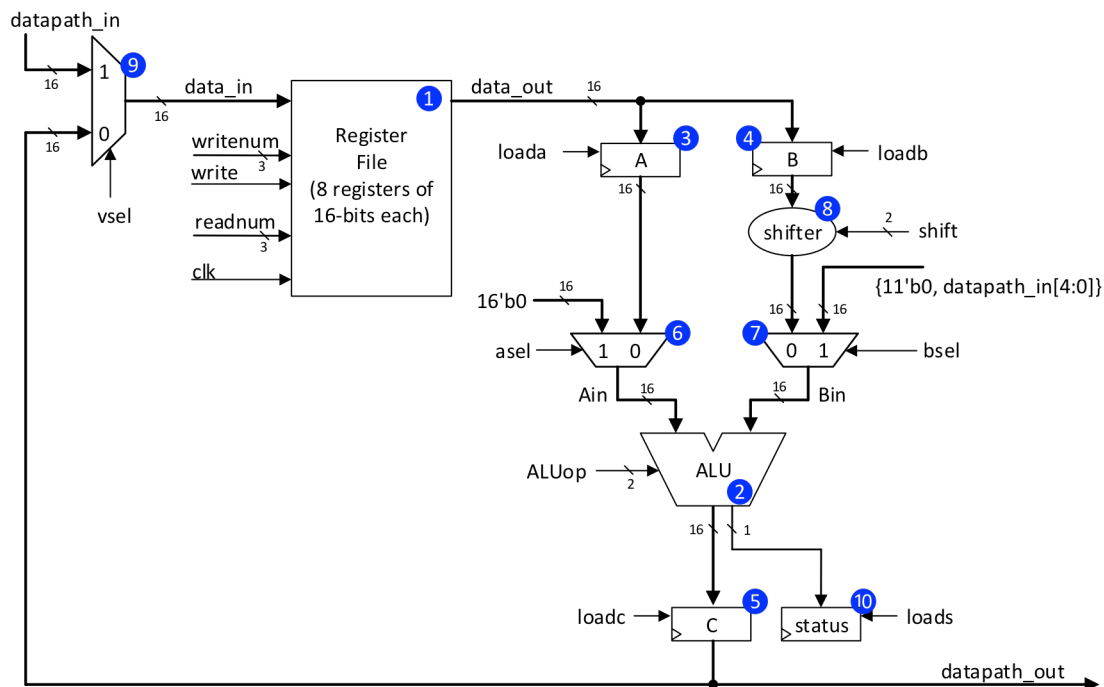

Figure 1: “Simple RISC Machine” Datapath
Part of the hardware that we need to execute these instructions is shown in Figure 1. This portion, which you will build in Lab 5, is called the “datapath”. It consists of one register file **1** containing 8 registers, each holding 16-bits; three multiplexers **6 7 9**; three 16-bit registers with load enable **3 4 5**; a 1-bit register with load enable **10**; a shifter unit **8**; and an arithmetic logic unit (ALU) **2**. Below we first describe the datapath components in detail and finish up our assembly example from Section 1.2 before walking through a simple example of how all the parts of the datapath work together.
While at first Figure 1 may look intimidating you should find it is all fairly straight-forward *if you read this entire handout before starting to write any Verilog*. This handout is long because it gives you detailed instructions and information you will need to save time.
- j) Now that all three main datapath modules are trusted to work, instantiate them in your datapath and add the remaining building blocks. Instantiate each of the three units (Register file ①, ALU ② and Shifter ③) inside datapath.v. Then, add in the remaining logic blocks ④ ⑤ ⑥ ⑦ ⑧ ⑨ ⑩ to your datapath module using synthesizable Verilog that conforms to the style guidelines. Use **no fewer** than one always block or assign statement per hardware block in Figure 1. Register A, B, and C will each